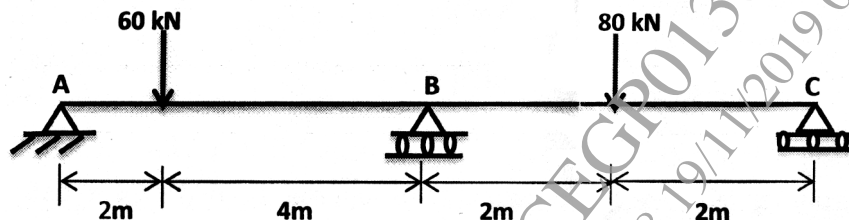

Fig. 4
- (b) Determine the reaction V_B for a continuous beam ABC shown in Fig. 4 by using Castigliano's second theorem. [6]